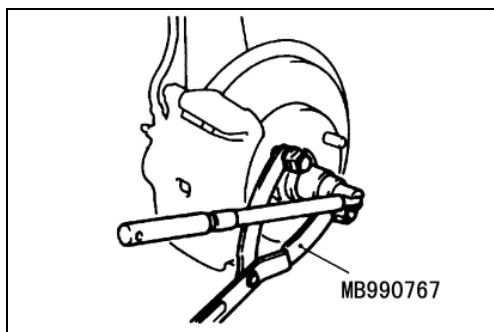

Fig.12-5
(2)Drive shaft nut removal(see Fig.12-5)